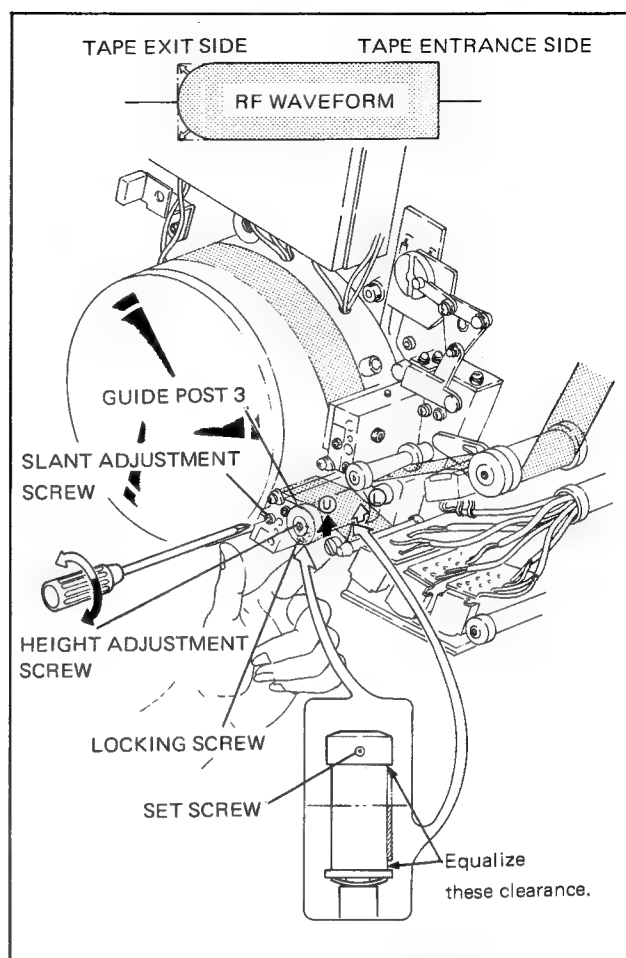

Fig. 10-16. Height Adjustment of Guide Post 3 and Slant Adjustment of Exit Slant Guide
22. Lightly push the **U** or **L** side of the tape shown in Fig. 10-16 and find out the side whose RF waveform on the tape exit side becomes flat.